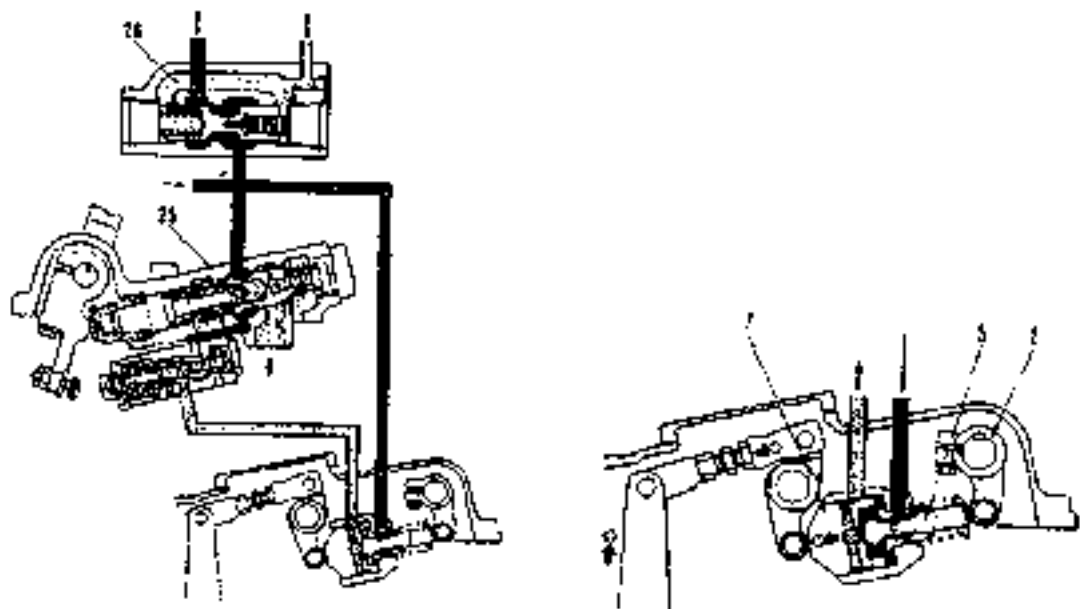

Fig. 2-78
When steering lever is pulled and brake applied, the steering lever is pulled fully to make steering valve move and oil from pump flows to part A. The oil at port A pushes piston (6). The direction of arrow (+) indicates pressure increase direction. The top of piston (6) pushes lever (5) to make braking function. At this time, the normal oil pressure valve in the circuit is 1.66MPa, as shown in Fig. 2-78.